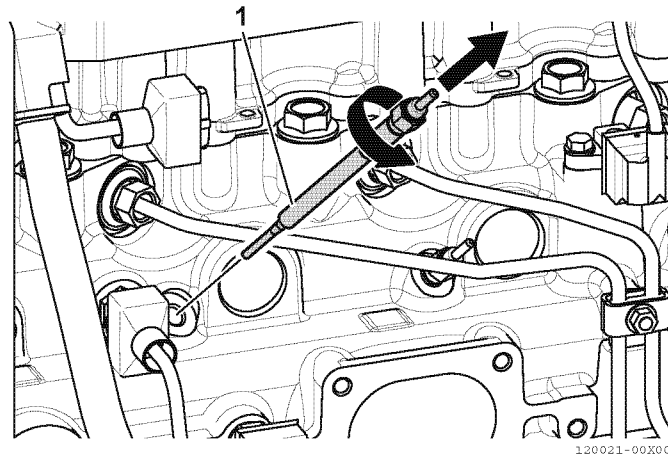

Fig.70-12
2. Loosen the M10 screw of the glow plug (1, Fig.70-12), and remove the glow plug from the cylinder head.